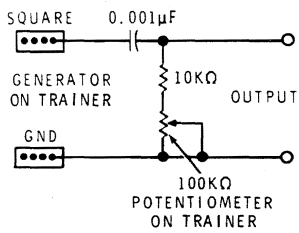

Figure 6-23
1. Construct the circuit shown in Figure 6-23. Turn on the Trainer and set the generator frequency to 1000 hertz.